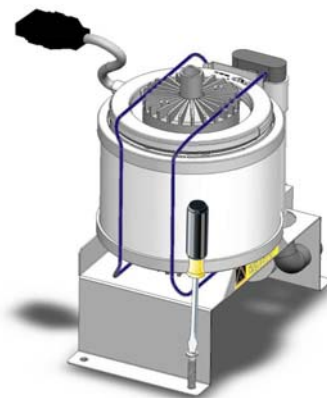

Fig. 17
2. Fasten the humidifier levelled above the cell or to a base by inserting the fixing screws in the 4 holes of the support base (fig. 17).